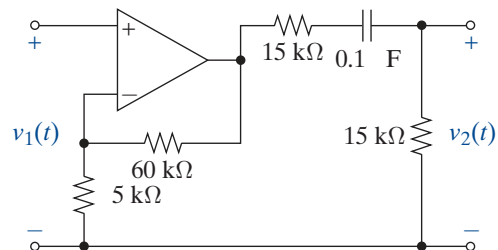

FIGURE P12-14
- 12-14 Find the transfer function $T_V(s) = V_2(s)/V_1(s)$ of the circuit in Figure P12-14.